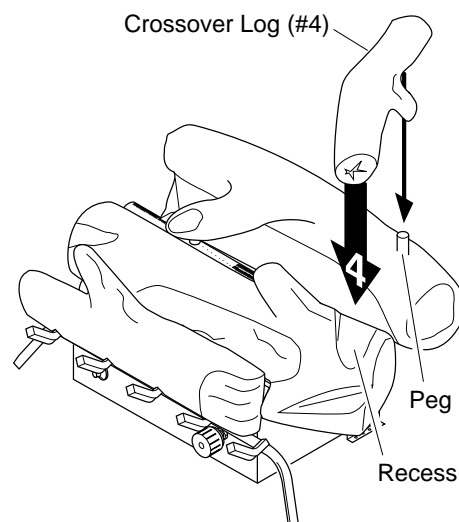

Figure 22 - Installing Crossover Log (#4)
4. Place crossover log (#4) onto the pin (right) on back log (#2) and into the recess of the middle log (#1) (see Figure 22).